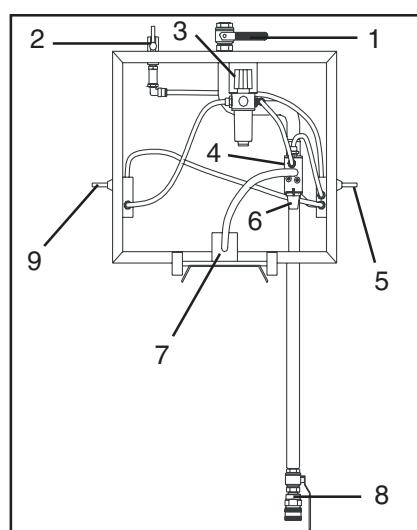

Fig. 7
**S3000, S3000 U, S3100, S3100 U** (Fig. 7, User Pack).